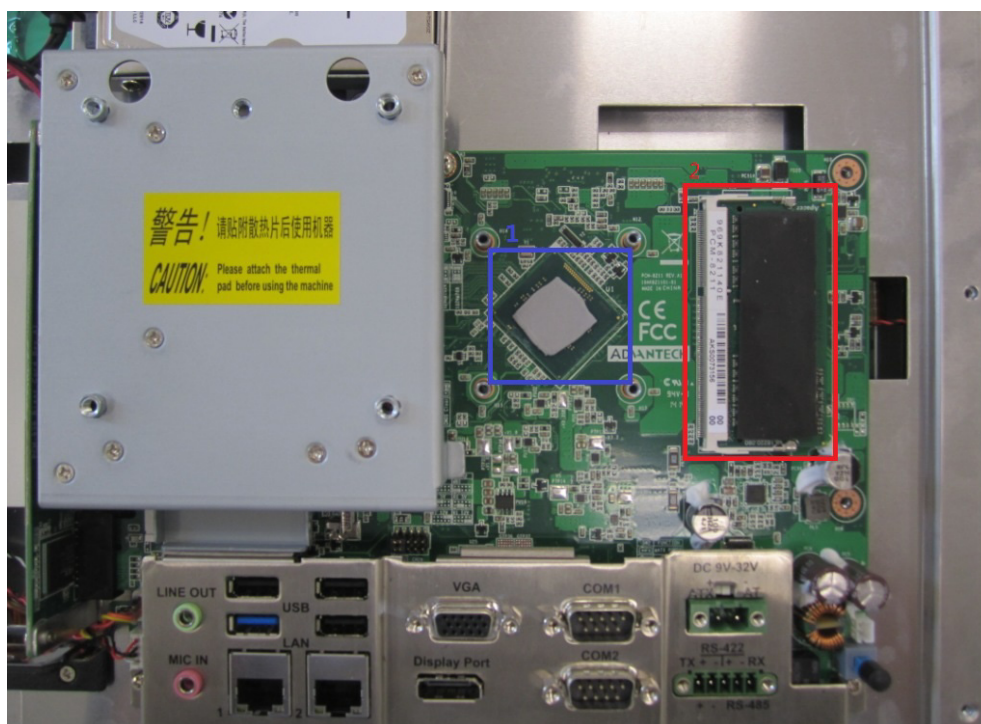

Figure 2.9
3. Insert the memory card into the slot (highlighted in the red square in Fig. 2.9). Retrieve the thermal pad provided in the accessory box and install it directly atop the memory card and CPU. Then replace the heatsink.